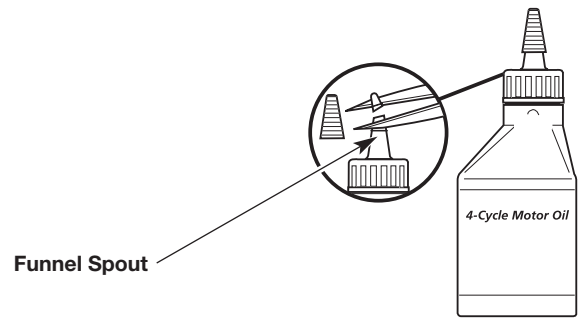

Fig. 10
2. Remove the cap from the oil bottle. Cut the tip off the funnel spout (Fig. 10).